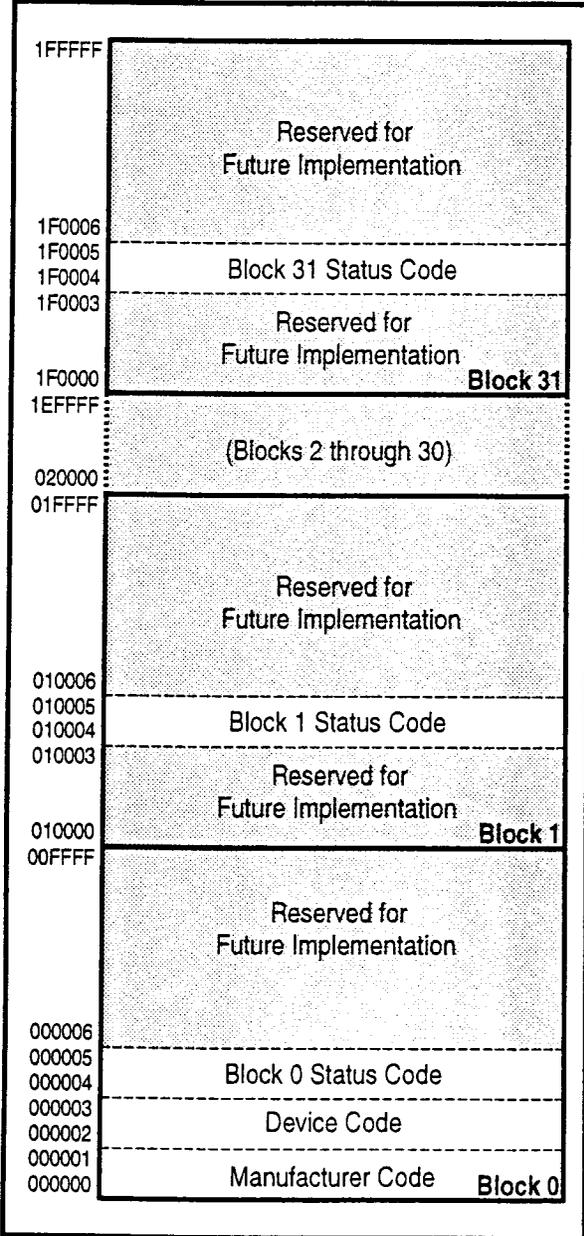

Figure 8. Device Identifier Code Memory Map
The read identifier codes operation outputs the manufacturer code, device code, block status codes for each block (see Figure 8). Using the manufacturer and device codes, the system CPU can automatically match the device with its proper algorithms. The block status codes identify locked or unlocked block setting and erase completed or erase uncompleted condition.
IA=Identifier Code Address: see Figure 8.
The identifier code operation is initiated by writing the Read Identifier Codes command. Following the command write, read cycles from addresses shown in Figure 8 retrieve the manufacturer, device, block lock configuration and block erase status (see Table 5 for identifier code values). To terminate the operation, write another valid command. Like the Read Array command, the Read Identifier Codes command functions independently of the V_{PP} voltage and RP# must be V_{IH} . Following the Read Identifier Codes command, the following information can be read:
- X selects the specific block status code to be read. See Figure 8 for the device identifier code memory map.